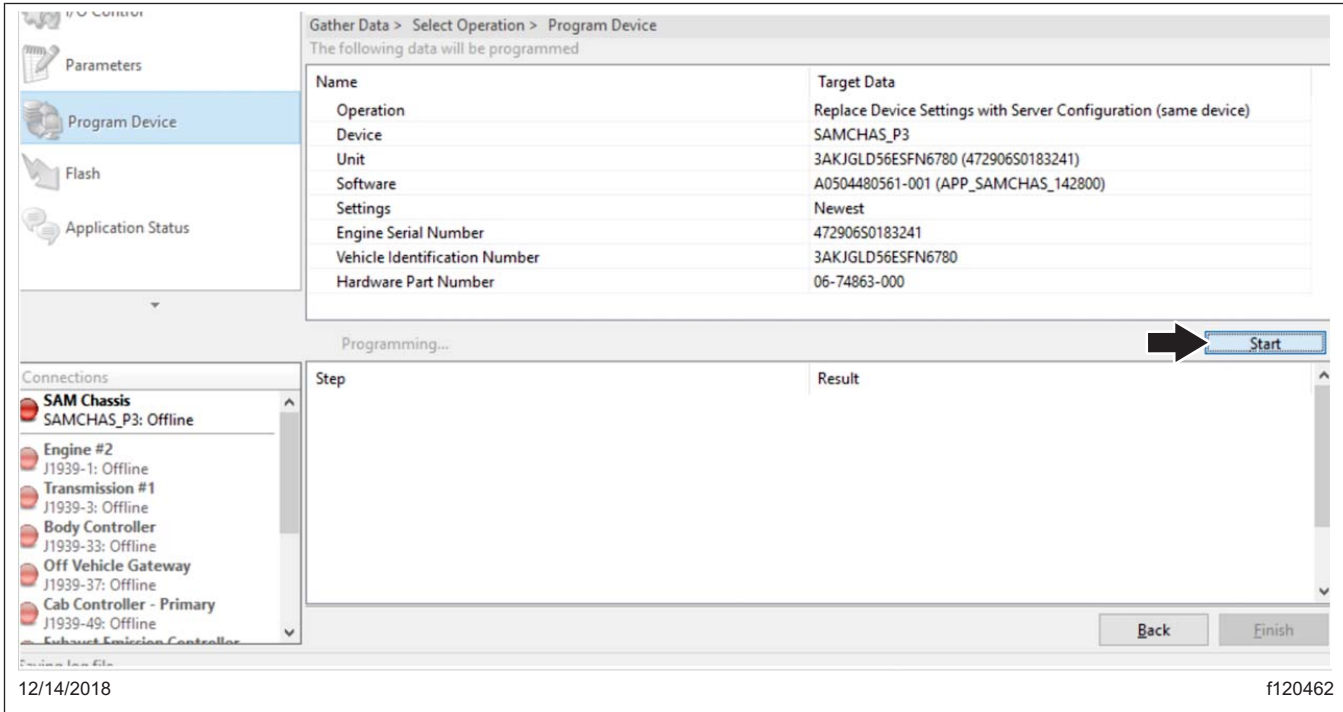

Fig. 9, Programming the Controller
11. Review and verify the VIN and hardware part number. Click "Start" to program the controller. The software will be flashed and the new parameter set will be written to the controller on the vehicle. See Fig. 9.